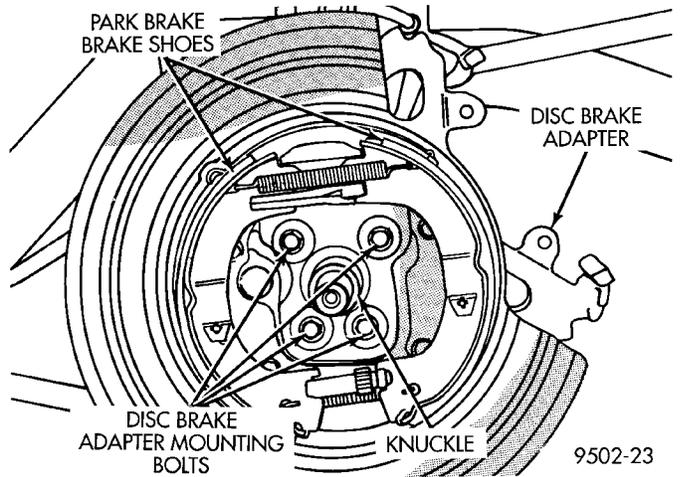

Fig. 16 Disc Brake Adapter Mounting
(8) On vehicles equipped with rear disc brakes, remove the 4 bolts attaching disc brake adapter to rear knuckle (Fig. 16). Then remove the adapter, rotor shield, park brake shoes and park brake cable as an assembly from knuckle.
(7) On vehicles equipped with rear disc brakes, install the disc brake adapter on knuckle (Fig. 16) Install the 4 bolts attaching the disc brake adapter to knuckle (Fig. 16). Torque attaching bolts to 68 N·m (50 ft. lbs.).